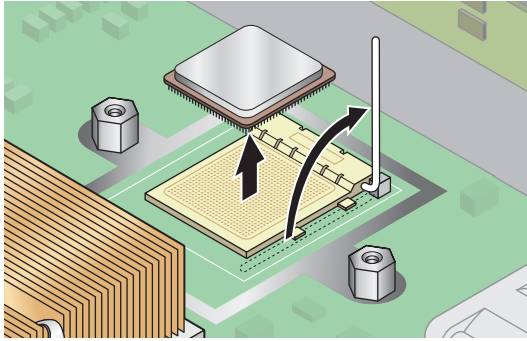

FIGURE 4-30 Removing a CPU from its Socket
7. Pull the socket release lever up to the fully open, perpendicular position (see FIGURE 4-30).